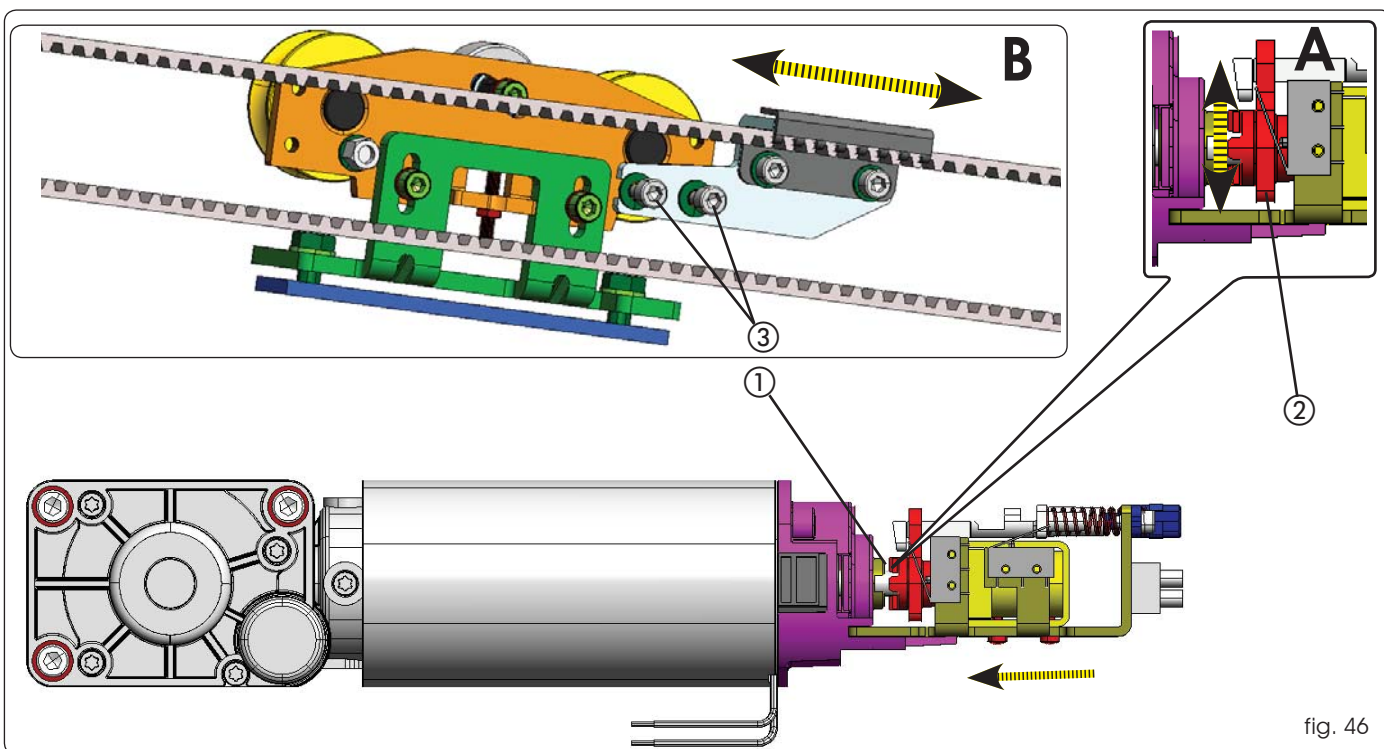
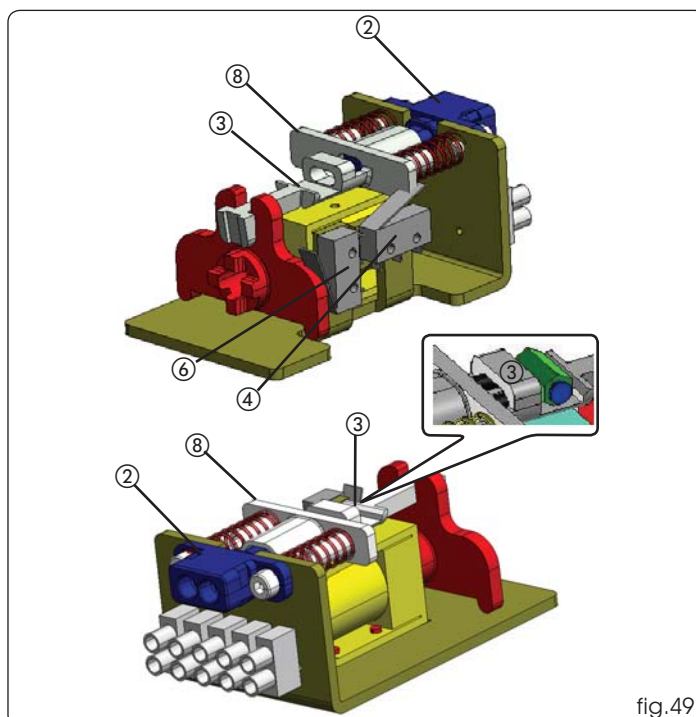

fig. 46
fig.49
- Manually push the lever (fig.46 ref. ①) toward the motor shaft, checking correct coupling as shown in fig. 46, ref.A).
- Move the lever (fig.46 ref.②) vertically and look for any play between the motor shaft and motor lock coupling.
- Loosen the two screws (fig.46 ref B ③) which connect the belt fitting to the drive carriage (on both carriages for double leaves).
- Approach the cable with sheath to part ② of fig. 49 and cut the sheath in excess.
- Route the cable (fig. 49 ②) inside part a taking the sheath to end.
- Insert the cable in the clamp (fig. 49 ref. ③).
- Pull the part ⑧ to its end (by compressing the springs) and screw the clamp screw ③ thus blocking the steel cable.
- Check if the motor lock coupling is free from the motor shaft coupling (fig. 46 ref. A).
- Release the knob by turning it 90° and check if the release device operates. Make sure that, by pulling the knob, the door opening microswitch activates (fig.49 ref ④).
Install the supervision microswitch as shown in Fig. 49 ref. ⑥. For electrical connection and programming, refer to the control board/accessories section of these instructions.